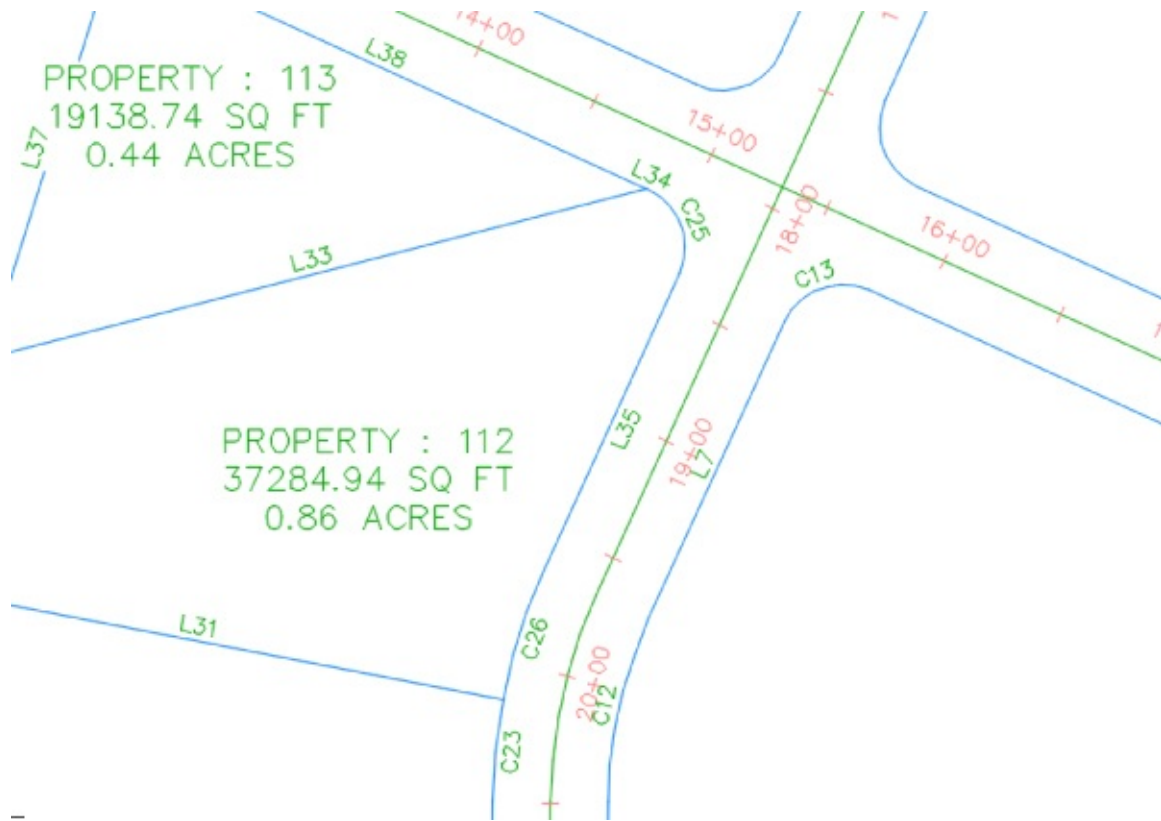

Figure 5.63 Curve tags on Parcel 5 and the northwest corner curve
2. Zoom to the curve on the northwest corner of Parcel 5 (see Figure 5.63).